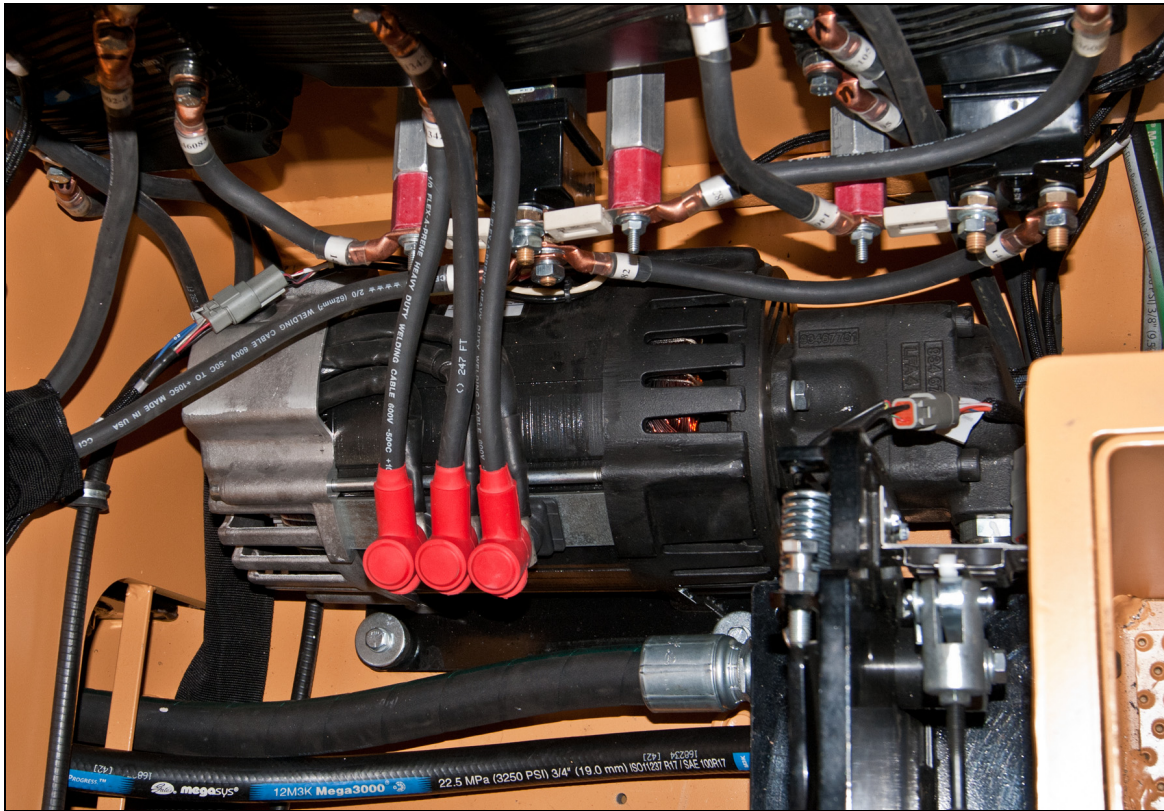

Figure 3-16: Motor Compartment
8. Replace desired component (See Figure 3-16).